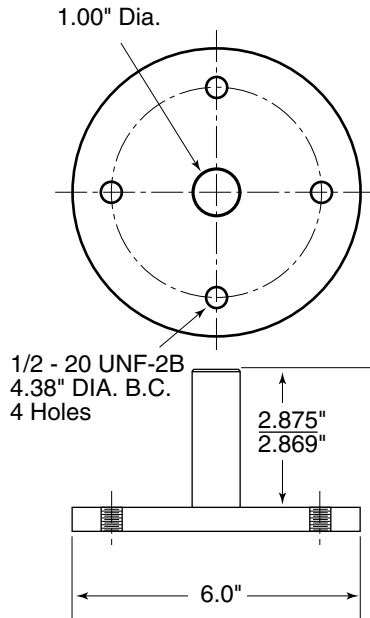

Figure 7: Assembly fixture dimensions for 6" motor; stickup is motor height.
4. Bolt the Suction Bracket and shaft onto the Assembly Fixture (See Figure 7 for Fixture specifications). Make sure that the Shaft Assembly is correctly aligned and is down solidly on the Fixture.